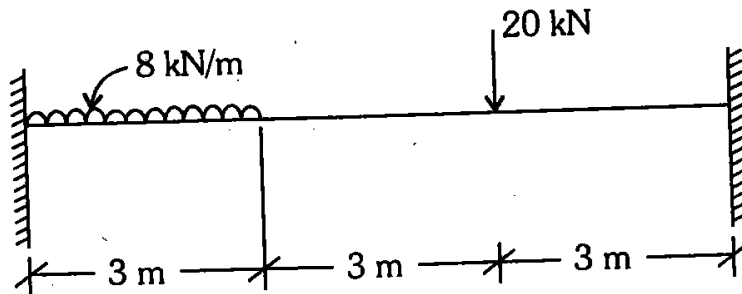

Fig. 2
6. Determine the fixed end moments and the support reaction for the fixed beam as shown in Fig 2. Also draw Bending Moment and Shear Force diagrams. 14